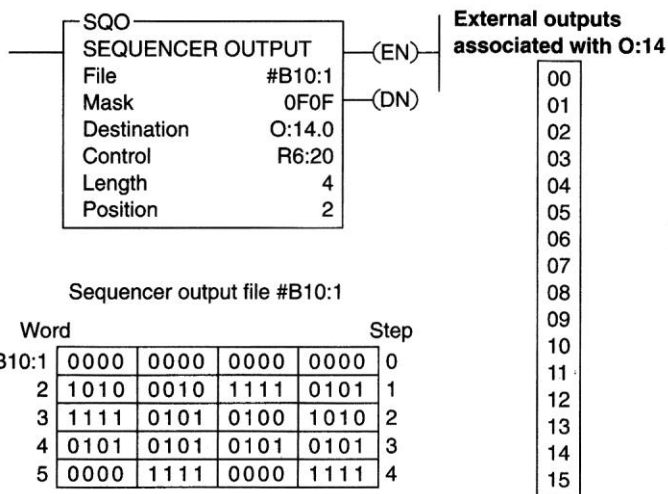

Figure 12-17 Sequencer data for question 25.
25. For the SQU instruction condition of Figure 12-17, which outputs will be on? 25._____